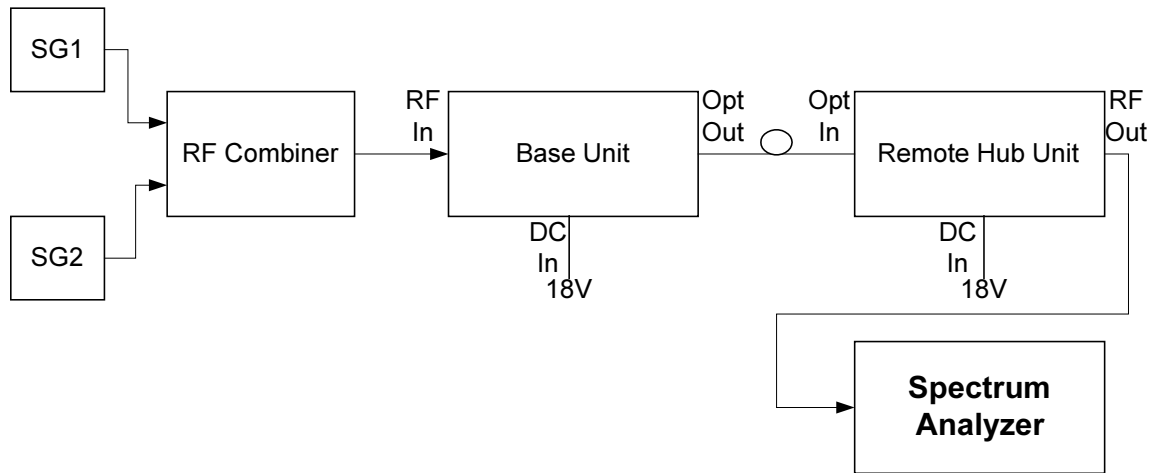

Figure 13 – Spectrum Analyzer Setup Test
3. Connect the 2-tone signal to the input of the base (see Figure 13).